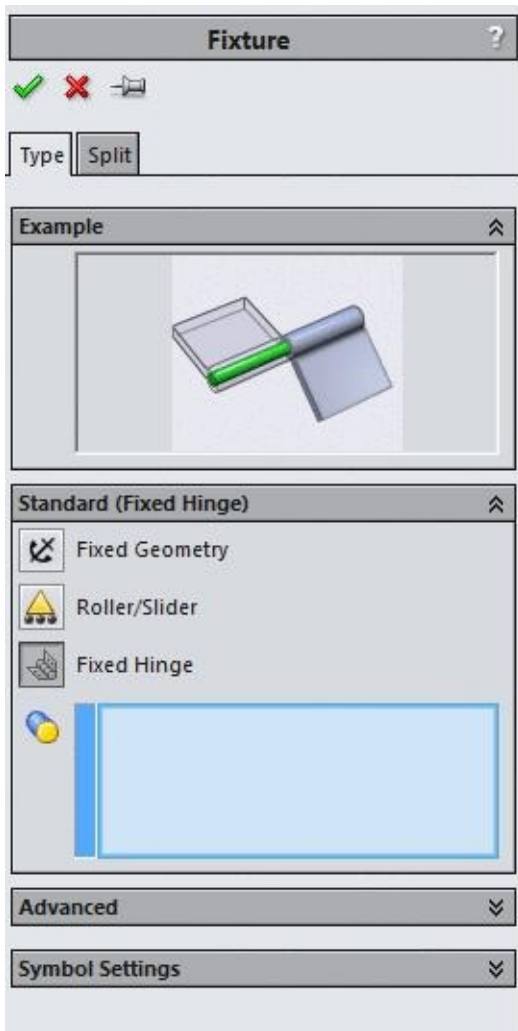

Figure-27. Fixture PropertyManager
- Click again on the down arrow below the **Fixtures Advisor** button and select the **Fixed Hinge** button from the tool list. The **Fixture PropertyManager** will be displayed; refer to Figure-27.